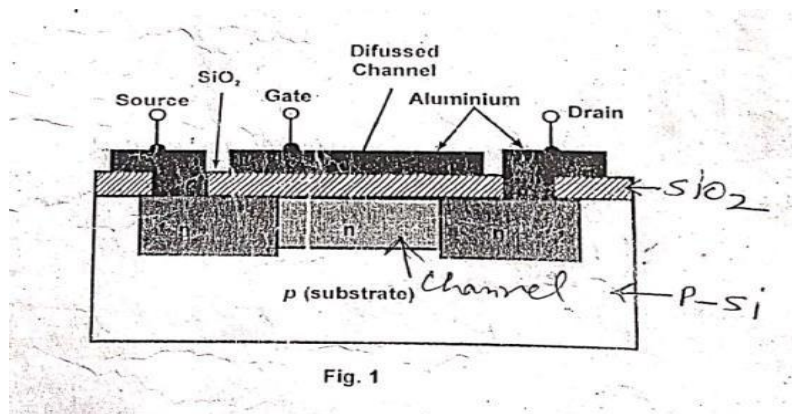

Fig.1. Basic structure of MOSFET
The structure of an N-channel MOSFET is shown in Fig.1. On to a lightly doped P-type substrate two heavily doped N-regions, separated by, about 25 μm , are diffused. These N regions will act as the source and the drain. A thin layer of insulating silicon dioxide (SiO_2) is then grown over this surface and holes are cut into the oxide layer through which metal (aluminum) contacts for the source and drain are made. A conducting layer of aluminum which will act as gate, is overlaid on SiO_2 , over the entire channel region. Because of the presence of the insulating layer of silicon dioxide this device is called the insulated-gate field effect transistor (IGFET or MOSFET or simply MOS). The semiconductor channel, the insulating dielectric SiO_2 layer and the metal layer of the gate, forms a parallel plate capacitor. The insulating layer between the gate and the channel results in an extremely high input resistance (10^{10} to, $10^{12} \Omega$) for this device. There are two types of MOSFET: namely, (1) The enhancement type MOSFET and (2) The depletion type MOSFET.